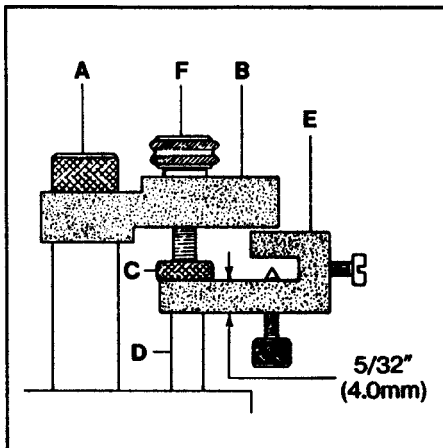

FIG. 8
Turn the handwheel until the needle bar is at its lowest point. Loosen presser bar regulating screw (A, Fig. 8) and insert needle bar setting block (B) under the head of the screw (A) with stop screw (C) above needle bar (D). Tighten screw (A).
The long portion of the looper clamp and height gauge (E, Fig. 8) laid on its side is the $5/32$ " (4.0mm) gauge used to set the distance between stop screw (C) and the top of the needle bar (D) at its lowest position. Tighten nut (F) to clamp stop screw (C) into place.